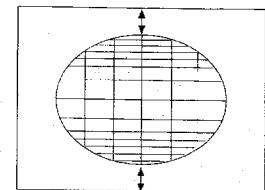

Fig. 10
- d) Adjust the S-correction to obtain a balance between upper, lower and center (fig. 10).